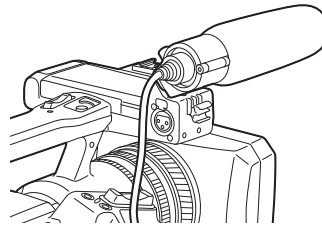

Fig. 2
- 2** Attach the microphone and tighten the microphone holder clamping screw. (Fig. 2)